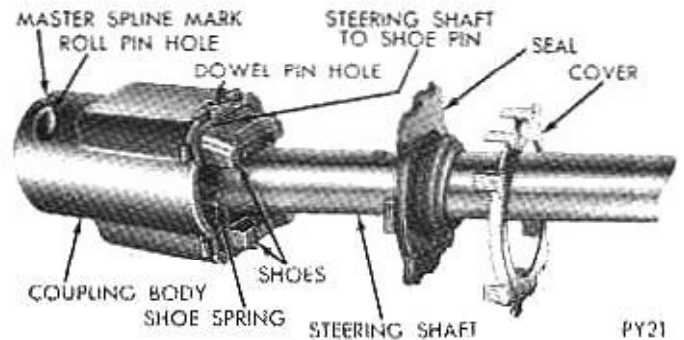

Fig. 31—Assembling Steering Shaft Coupling
Steering Shaft Coupling Assembly (Fig. 31)
- (2) Place cover and seal on shaft.
- (3) Press shoe pin into steering shaft so that it projects an equal distance on each side of shaft.
- (4) Place spring on side of shaft, straddling the shoe pin.
- (5) Place shoes on pin ends with flat side toward spring engaging tangs.
- (6) Squeeze shoes together, compressing spring, and push assembly into coupling body (Fig. 31) with gage hole in shaft aligned with master spline in coupling.
- (7) Drive in a new dowel pin flush to outer surface of coupling body.
- (8) Position seal and cover on body and crimp cover tangs over the projections on body securely.